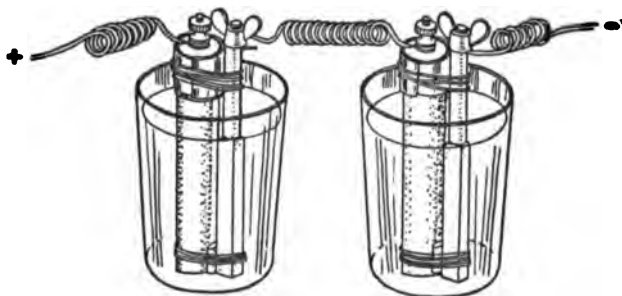

FIG. 204. — Two Home-Made Battery Cells Connected in Series.
**The Battery.** A dry battery is too heavy for the motor truck to carry; so we must make a special two-cell battery like that shown in Fig. 204. Two glass tumblers to hold the solution, a pair of battery zincs, a pair of carbons, and a bi-chromate of potash solution, are needed. Old battery
Figure 205 shows a completed cell, and Fig. 204 how the two cells are connected in *series*, that is, with the carbon